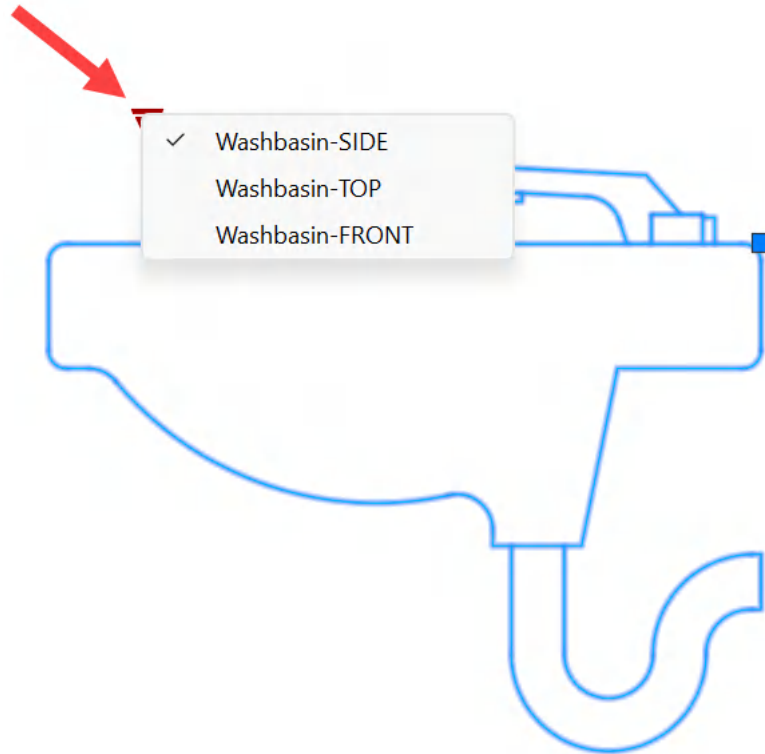
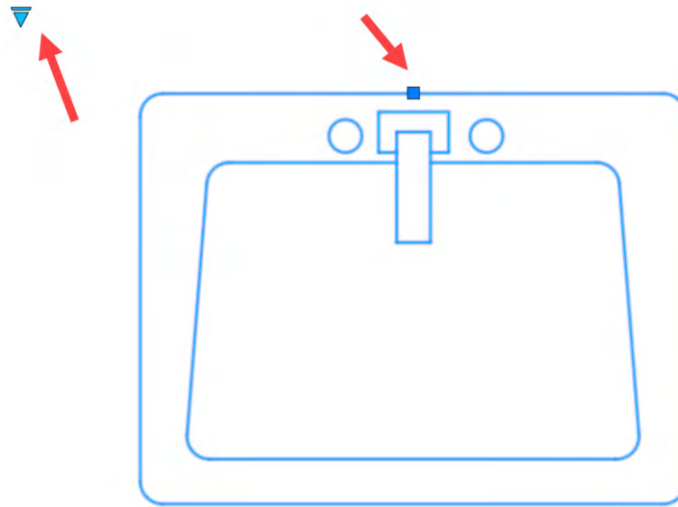

Figure 12.38: The positioned dynamic block with the visibility states displayed
Figure 12.39: The Washbasin\_DYN dynamic block using the Washbasin-TOP visibility state
6. Click on the arrow grip to display the available visibility states, as shown in *Figure 12.38*.
7. On the menu displayed in *Figure 12.38*, select the **Washbasin-TOP** visibility state. The block's view will change to the washbasin's top view, as shown in *Figure 12.39*.